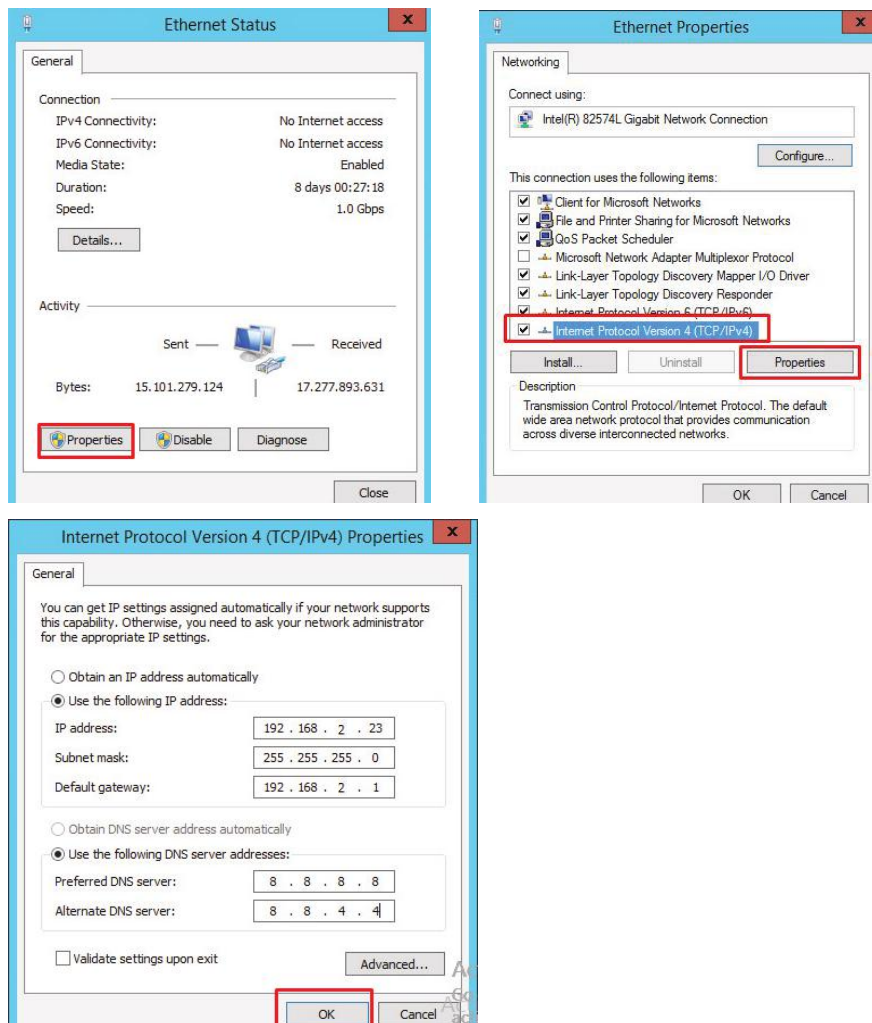

Figure 23. PC Ethernet Setup
- j) From the PC's 'Network Connections', go to the 'Ethernet Properties.' Following the operations in the Figure 23, an IP Address is defined to the PC.